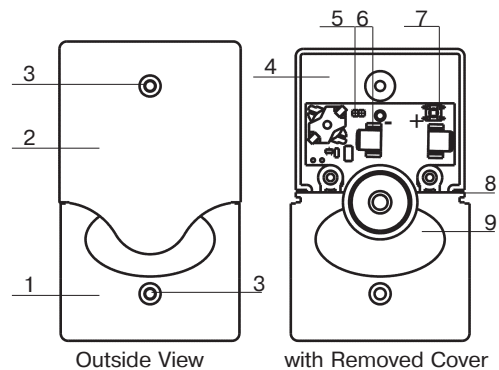

Figure 2 – Case of the Alerter
The Alerter layout is shown in figure 2 and comprises the following components:
11.1 Choose a place for installation, mark places for the Alerter fixation. Use the Alerter case as a template for marking (see Figure 2).